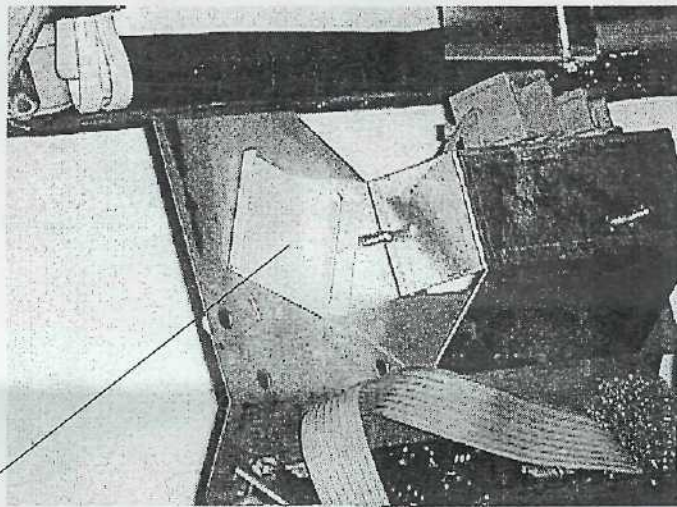

Fig. 5- Self-Adhesive Mounting Rail Applied.
5. Clean inside surface of Control Panel with a 409-type Cleaner and apply Self-Adhesive Mounting Rail (included with Sauer mann Pump). [FIG. 5]